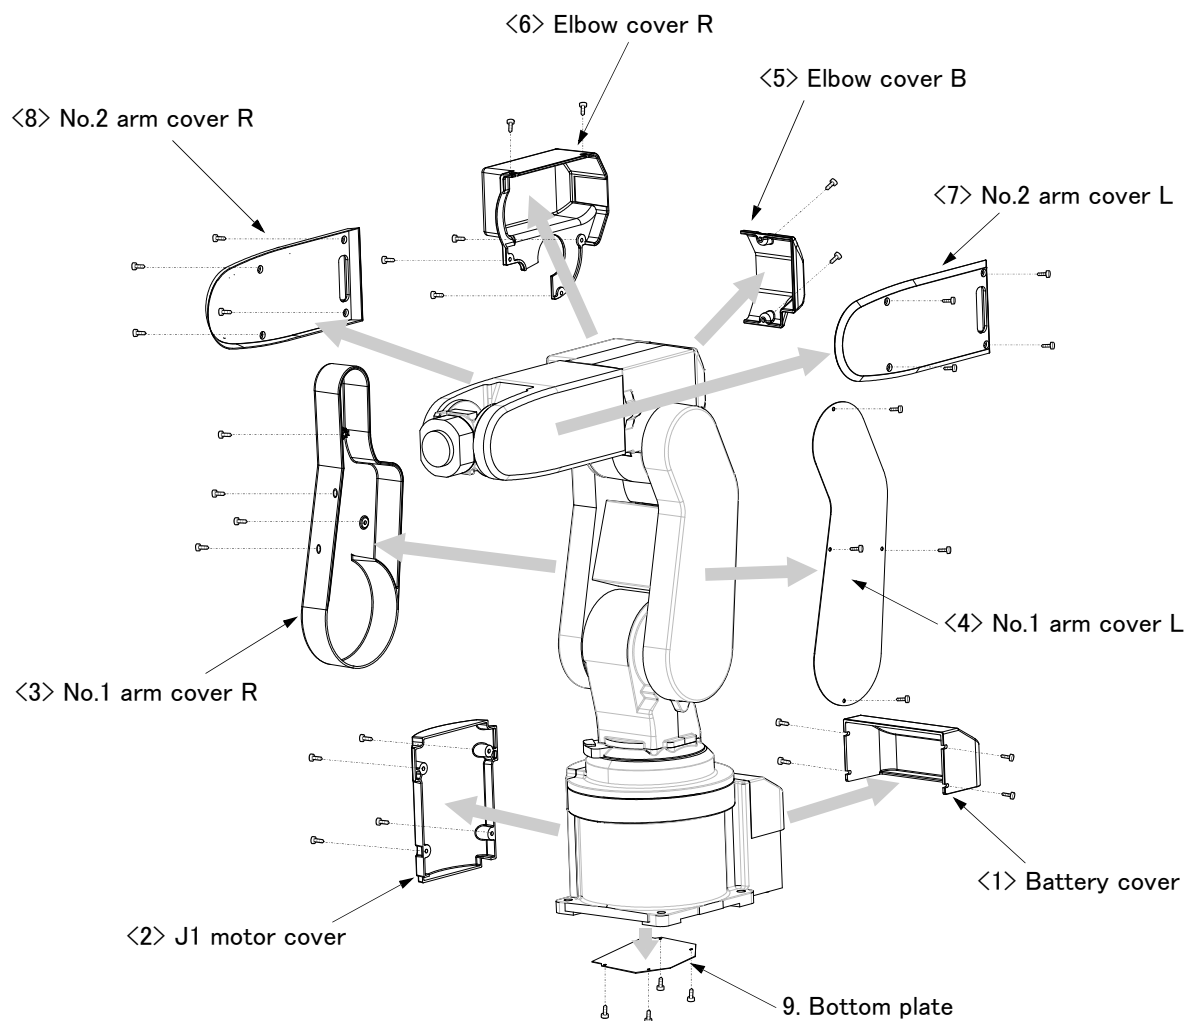

Fig.5-4 : Installing/removing the cover (RV-2FR series)
- (1) Refer to Fig. 5-4 and remove the covers.
- (2) The names of the cover and installation screw are given in Table 5-4. The number in Table 5-4 correspond to Fig. 5-4.
- (3) Depending on the robot's posture, some covers are hard to be removed. In such a case, change the robot's posture by performing jog operation to remove the covers.
- (4) When reattaching the covers after a maintenance inspection, proceed in the reverse order of their removal. Tightening the screw with the torque shown in Table 5-4.